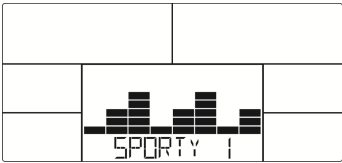

FIG. 16
- 2. Press UP or DOWN (Encoder) to select player modes 1 to 4 (Figure 16) and press MODE/ENTER to confirm entering.